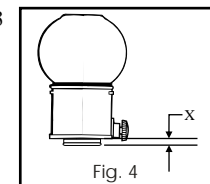
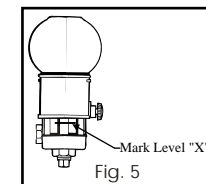

Fig. 4
Fig. 5
8. Run equipment to check lubricant level. If oil level is too low, remove reservoir and raise arms on level adjuster slightly, then repeat steps 6 & 7. If oil level is too high, remove reservoir, lower level adjuster arms slightly and drain equipment until oil level is reached, then repeat steps 6 & 7. Turn set screw to hold reservoir assembly in place. Adjustment tip: Measure distance between bottle and casting edge (Fig. 4 - this dimension may vary), replace bottle on adjustment arm in lower casting - mark dimension on outside of lower casting with temporary marker. (Fig. 5) This is the level setting (this step can be eliminated if the **Opto Laser Level Tool** is being used to set oil level).